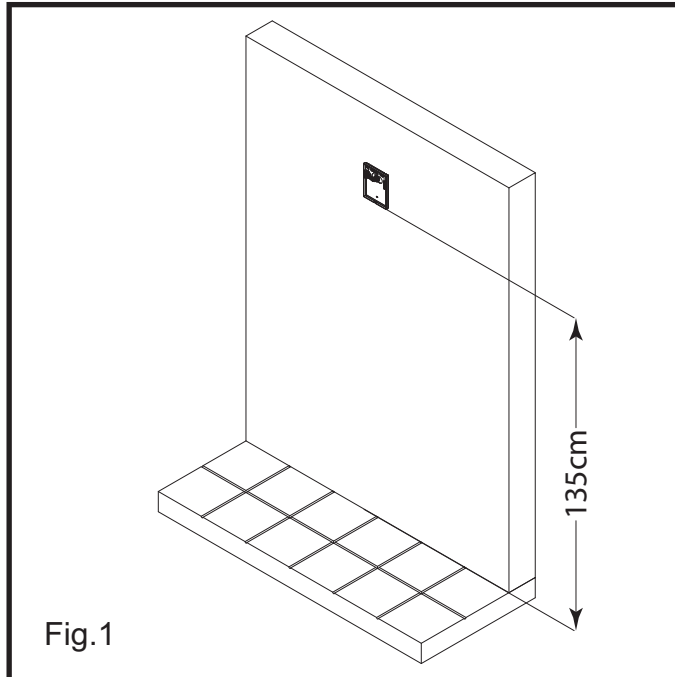
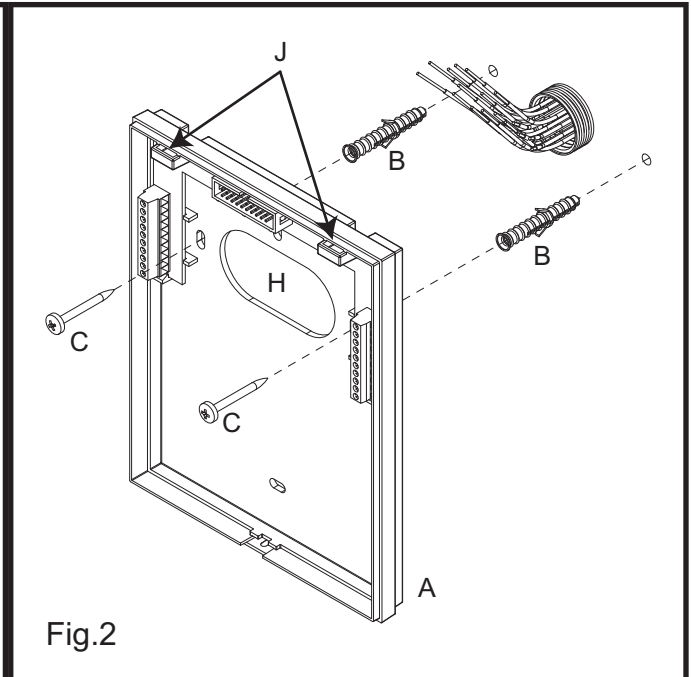

Fig.1
Fig.2
- Appoggiare a parete la base "A" ad una altezza di circa 135cm (Fig.1) dal pavimento finito e prendere i riferimenti per i fori di fissaggio, tenendo presente che i conduttori devono passare attraverso la fessura "H" (Fig.2).
- Con l'ausilio degli incastri "J" (Fig.2) agganciare il coperchio "D" alla base "A" come mostrato in figura 4 quindi spingere la parte inferiore del coperchio "D" verso la base "A" e procedere al collaudo del sistema.
- Put the bottom "A" against the wall at 135cm from the finished floor (Fig.1). All cables must be fed through hole "H" (Fig.2).
- Leaving approximately 135cm from the finished floor, fit the bottom "A" against the wall and mark the fixing holes considering that the cables must fed through the opening "H" (Fig.2)
- Make the holes, and fix bottom "A" on the wall using the two wall plugs "B" and the two screws "C" as shown in figure 2.
- Hook cover "D" to bottom "A" by using the two clips "J" (Fig.2) as shown in figure 4 then push down cover "D" towards bottom "A". Then proceed with system testing.